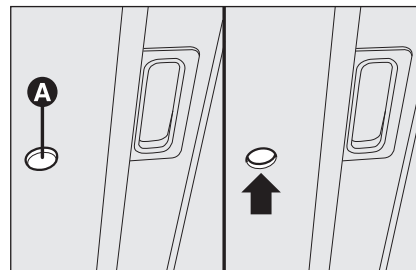

fig. 69
- ☐ insert the key into hole **A-fig. 69** and turn it: